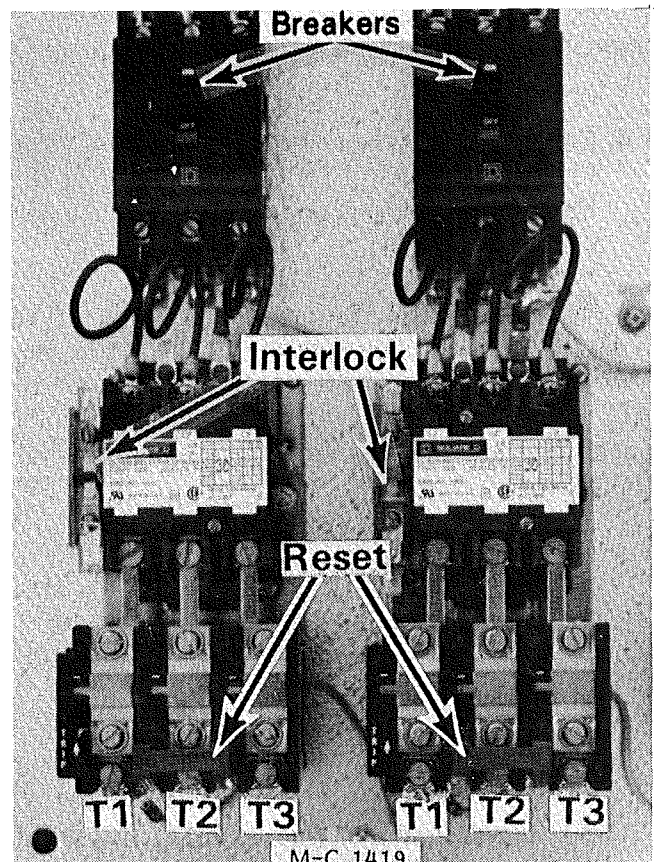

Figure 11 – Level and Unload Auger Magnetic Starters – 3 Phase 230V
- A. **Three phase motors** – Move the wire from terminal T1 to T3 and T3 to T1 on the fan magnetic starter in the lower control cabinet. See Figure 11.